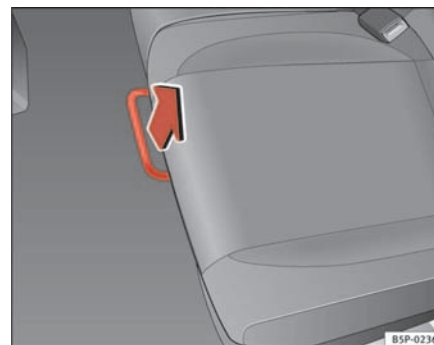

Fig. 95 Unlocking bar for the rear seat
- In the seated position, unlock the lever in the direction of the arrow ⇒ page 131, fig. 95.